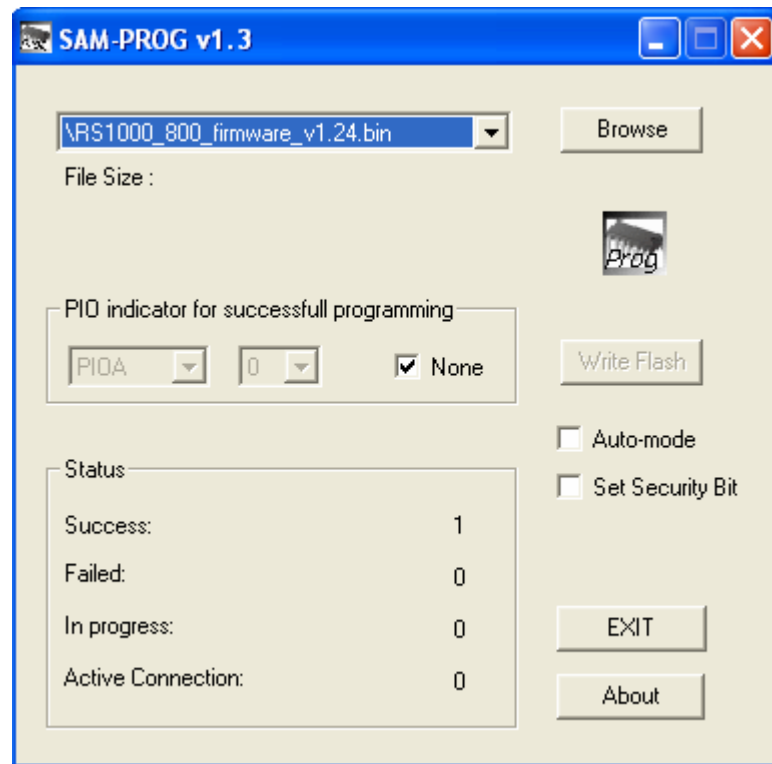

Fig. 47
Step 14: Click on the “Write Flash” button to download and upgrade the tester firmware. The *Status* window will show *Success* to be 1 (Fig. 47). If not, repeat Step 1.